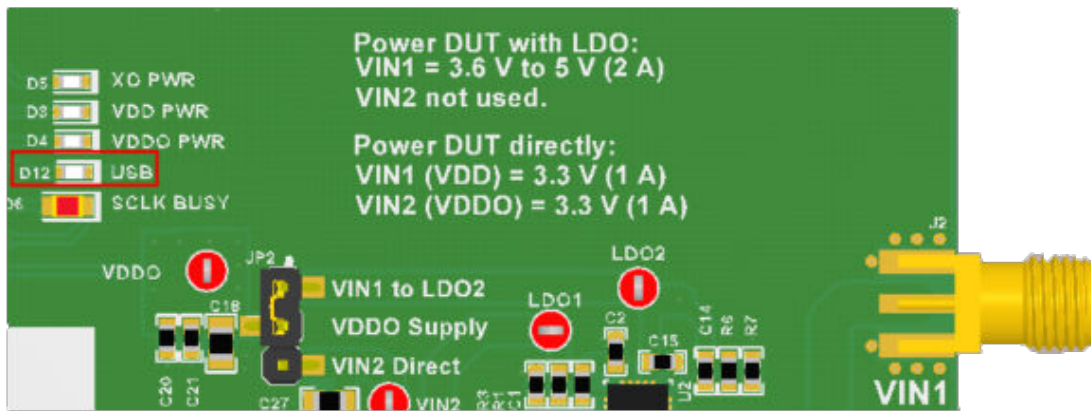

Figure 2-1. USB LED
- iii. Click identify to blink LED illustrated in Figure 2-1. This confirms you are connected to the board you expect.